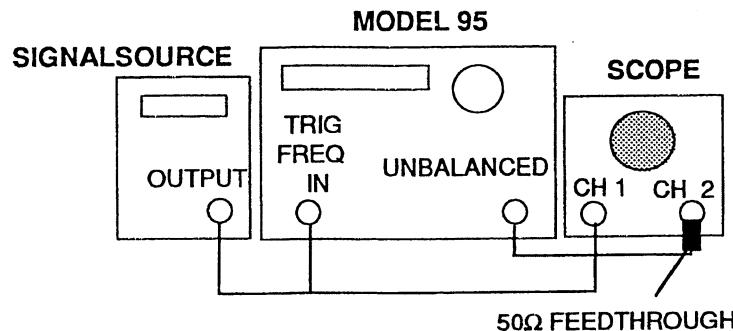

Figure B-1. Phase Setup
1. The Model 95 displays PHASE 0 XXXXX where XXXXX represents a calibration value. Connect the test equipment as shown in figure B-1.
1. The Model 95 displays PHASE +180 XXXXX where XXXXX represents a calibration value. Leave the test equipment connected as shown in figure B-1. Do not change the signal source.
in figure B-1. Do not change the signal source. The scope should not need adjustment.
1. The Model 95 displays SQ PHASE 0 XXXXX where XXXXX represents a calibration value. Leave the test equipment connected as shown in figure B-1. Do not change the signal source.